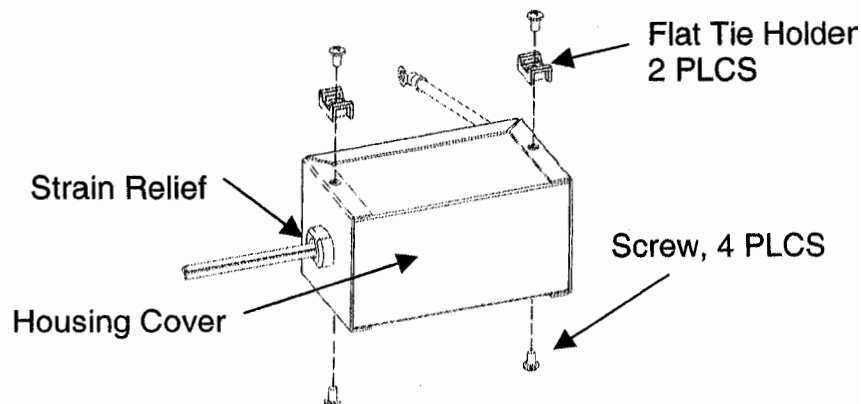

Figure 5
14. Place Heyco strain relief over wires then push into housing. (see Figure 5)
15. Install housing cover and flat tie holders, secure using 4 screws. Ensure all three capacitor wires are within the housing and are not pinched. (see Figure 5)